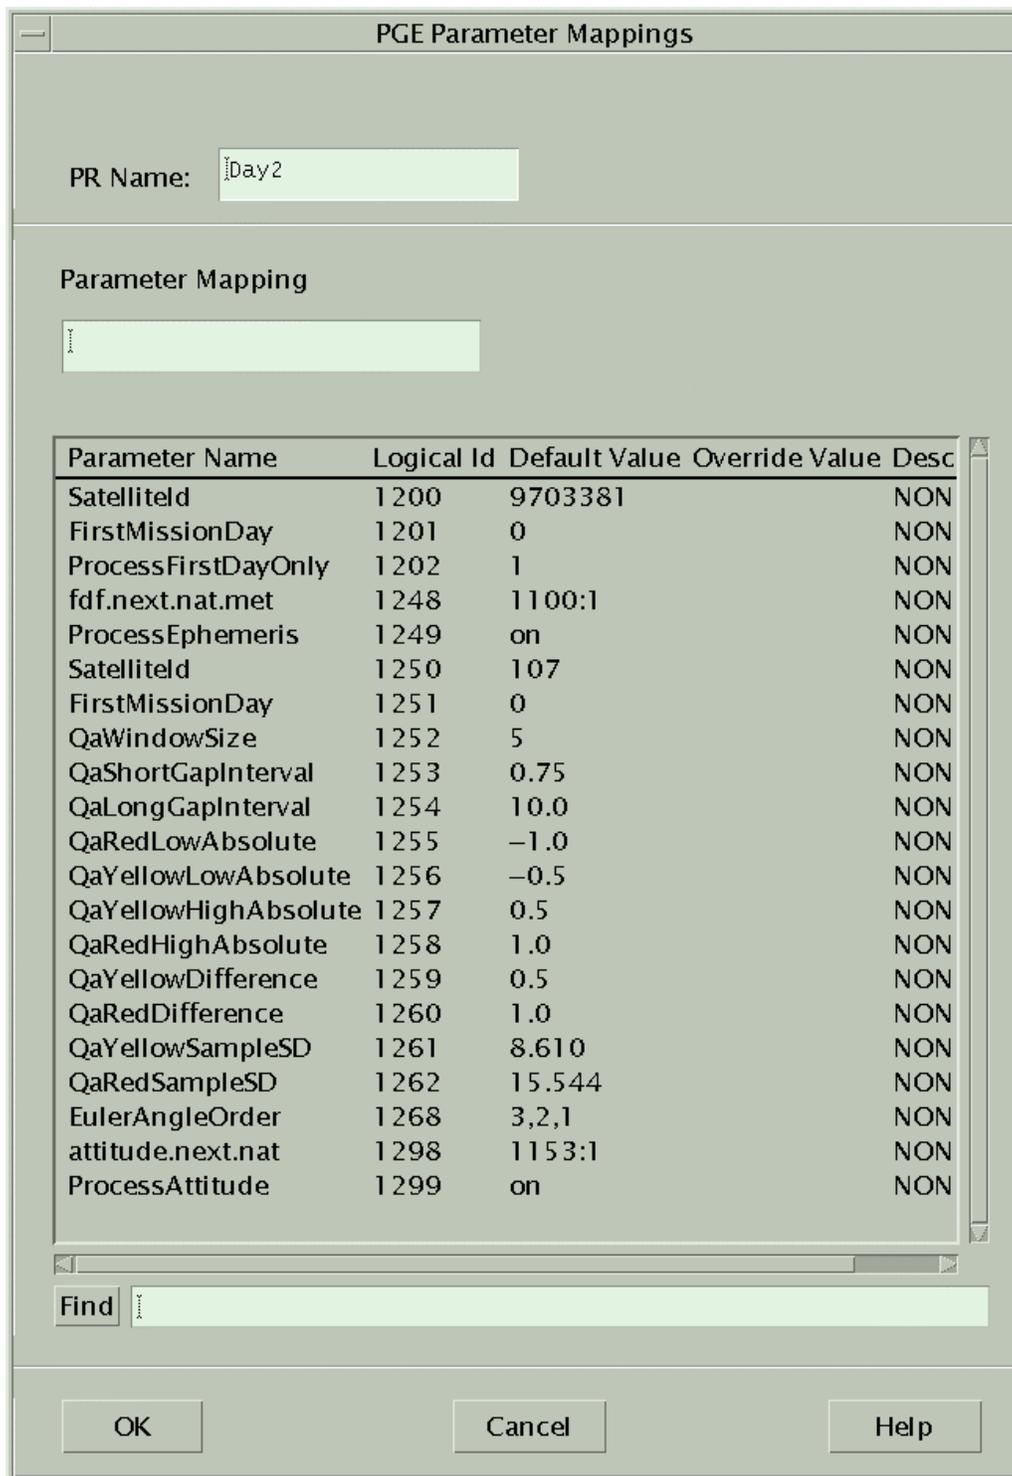

Figure 18. PGE Parameter Mappings GUI
- The **PGE Parameter Mappings** GUI page (Figure 18) is displayed.